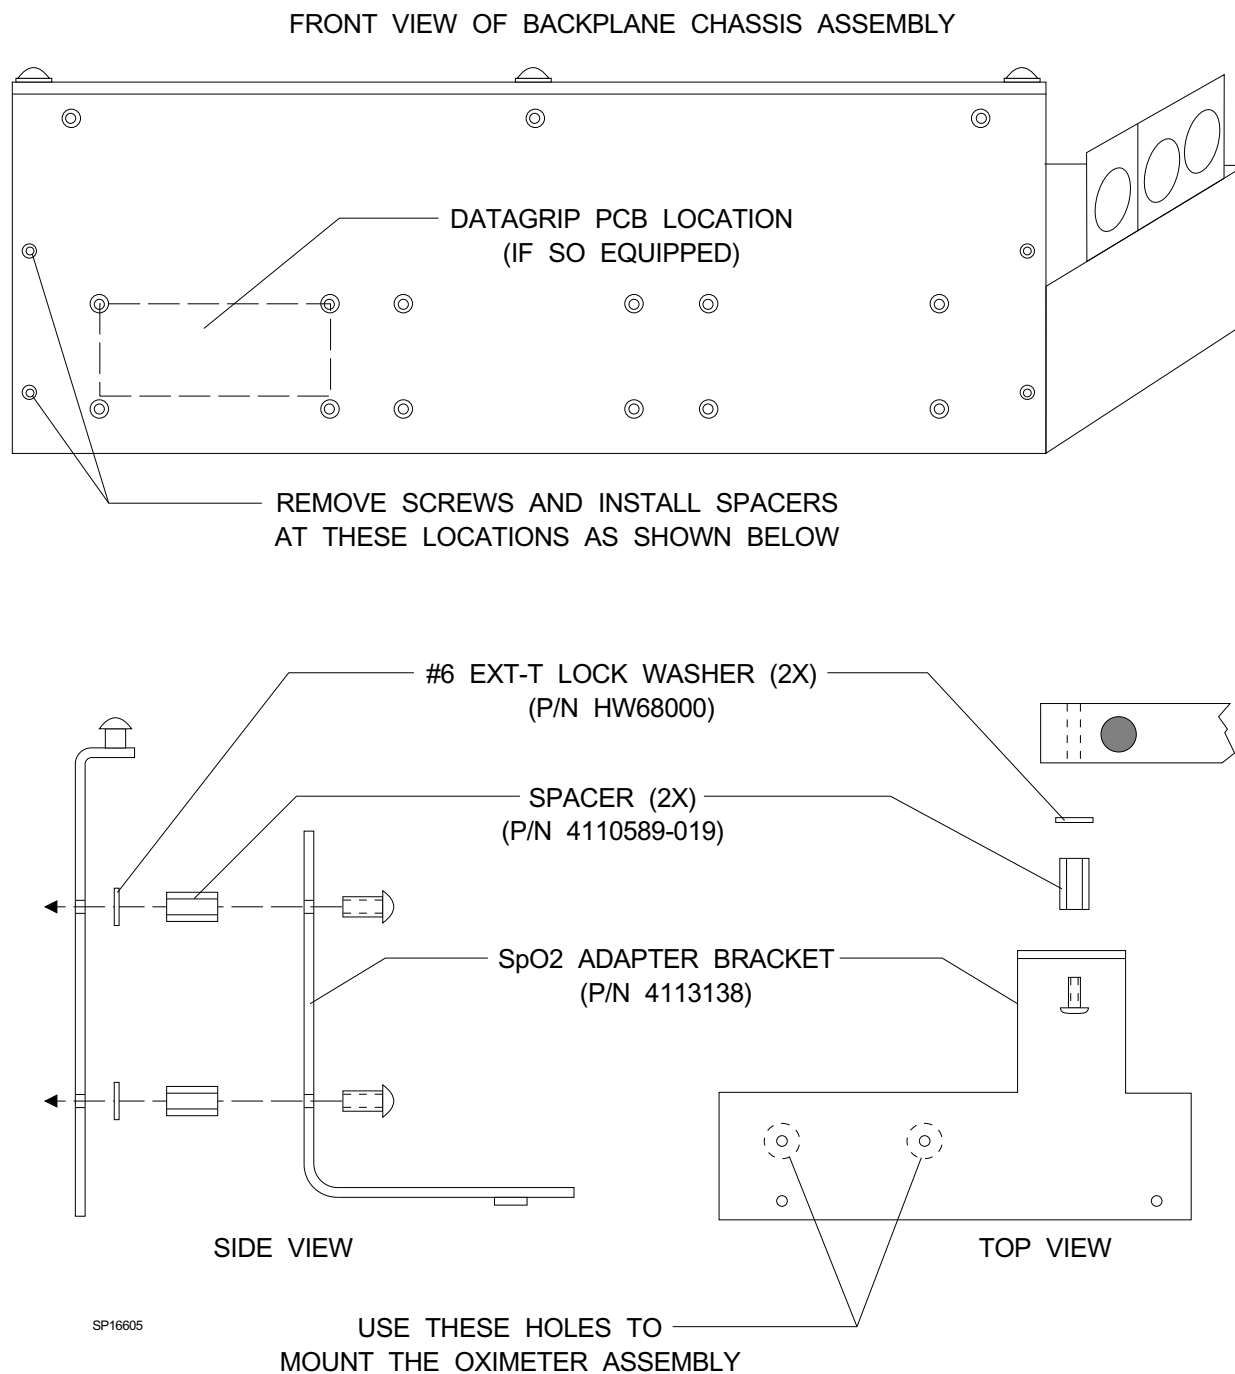

Figure 5: BACKPLANE MOUNTING OF SpO₂ ADAPTER BRACKET
14. Remove the two button head hex screws and any lock washers from the left front edge of the backplane assembly. See Figure 5.
16. Mount the SpO₂ adapter bracket (P/N 4113138) to the spacers installed in the previous step reusing the screws removed in Step 14. See Figure 5.